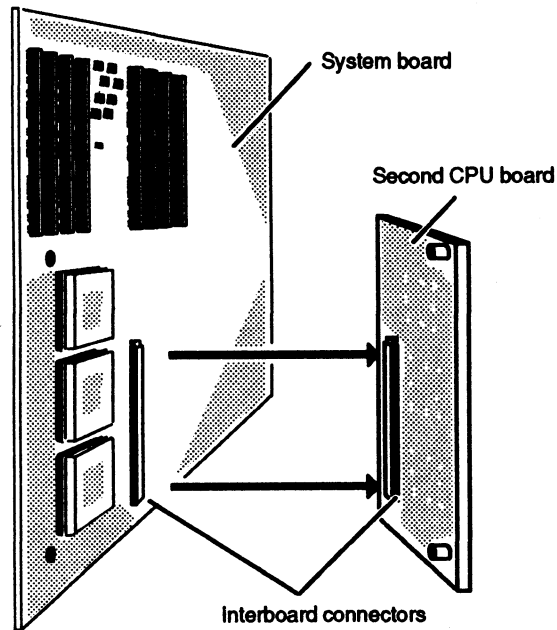

Figure 8-4 Separating the Interboard Connectors
2. Separate the interboard connector on the back of the CPU option board from the interboard connector on the board beneath it as shown in Figure 8-4.